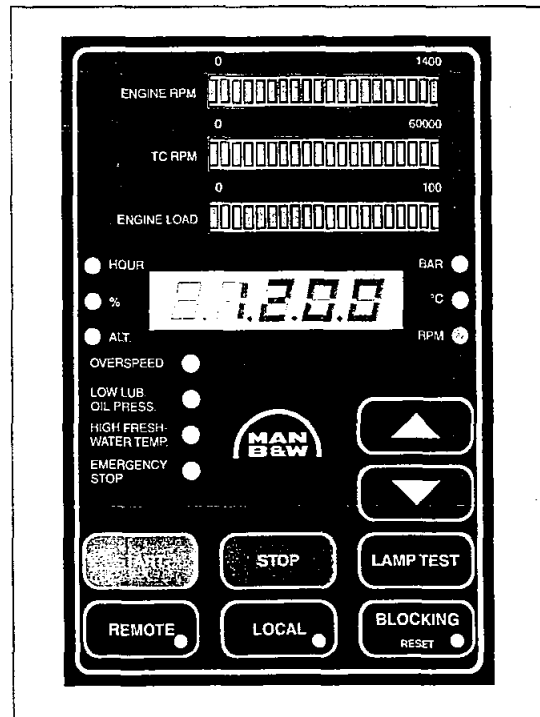

Fig 3 Operation box (OB).
- 16) Start the engine by activating the start button on the operation box; push the button until the engine ignites, see Fig 3.